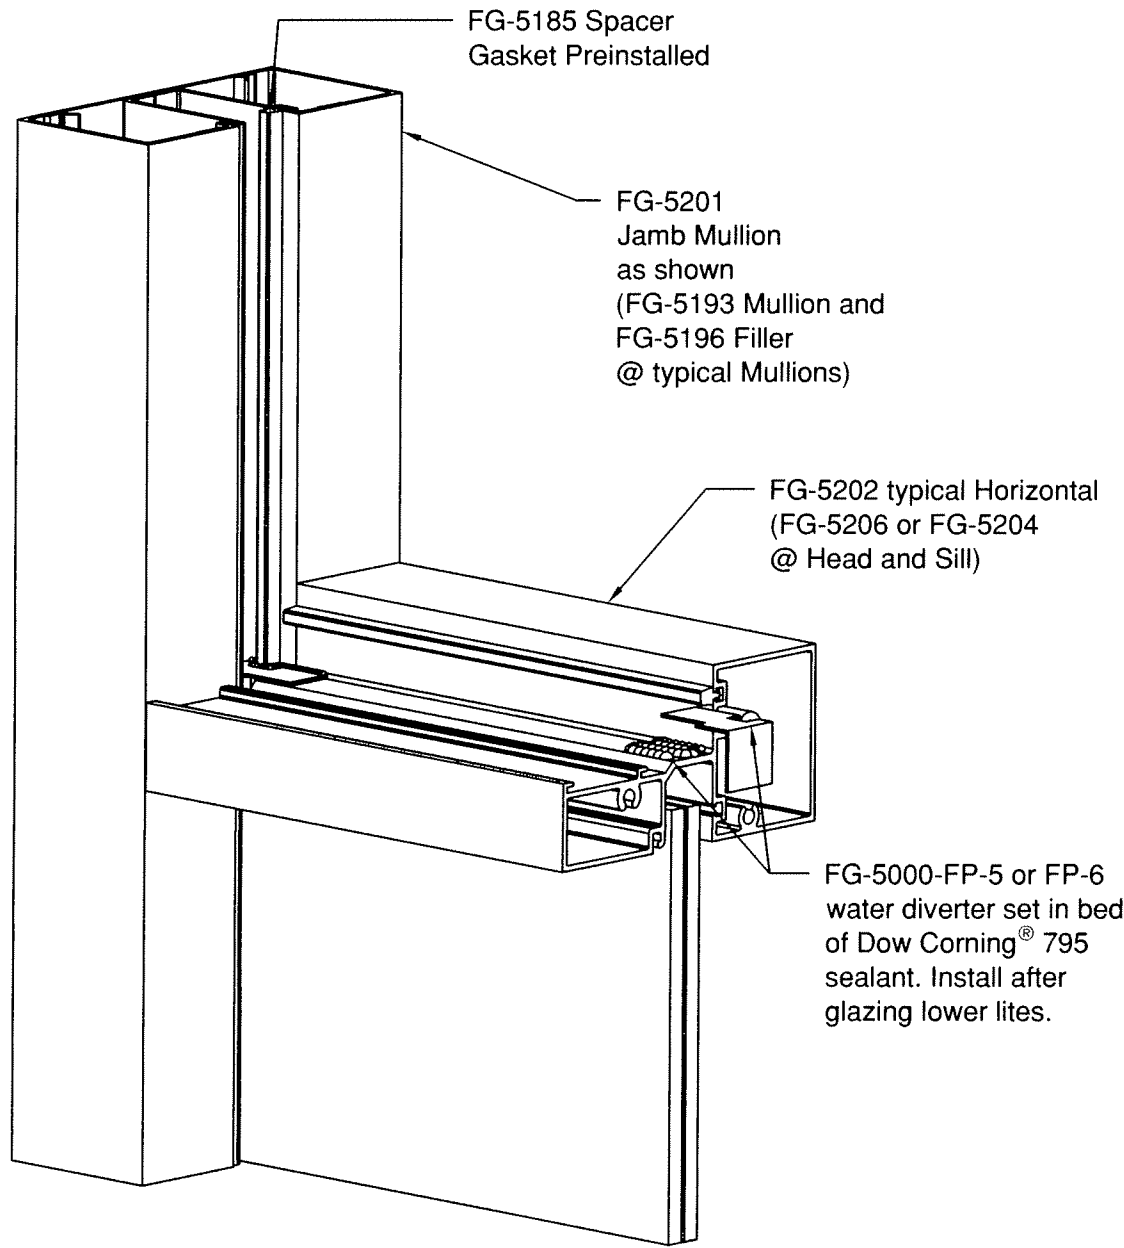
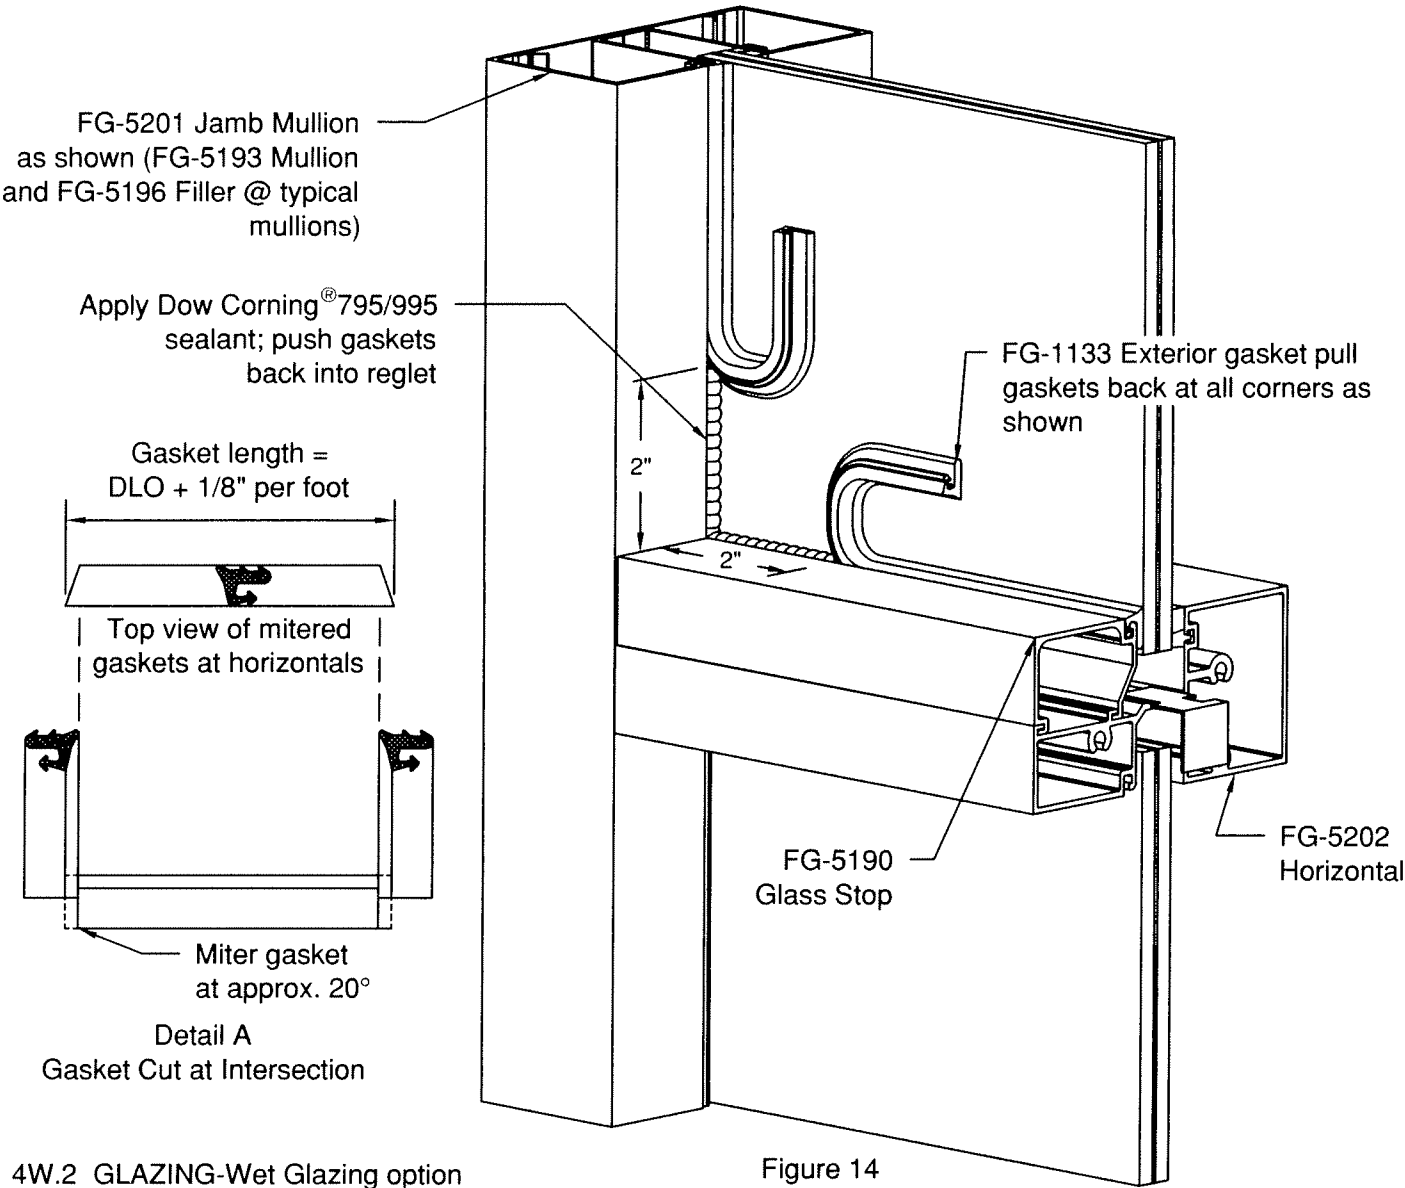
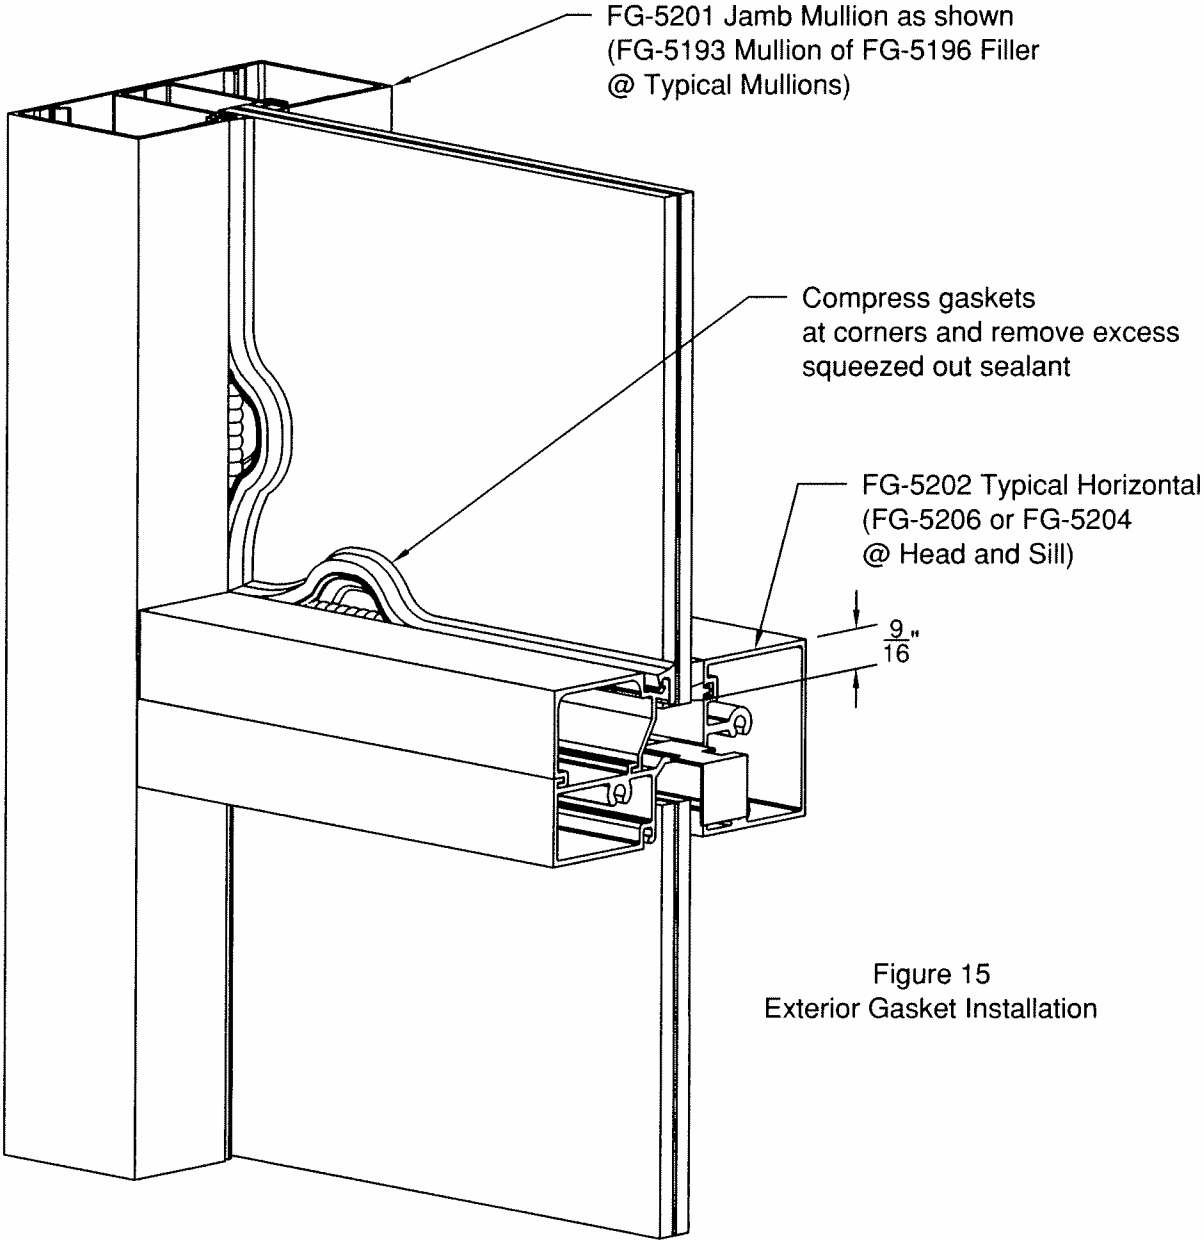

Figure 13
Figure 14
Figure 15
- 4W.1.2 Install water diverters see **Figure 13** after lower lite is in position.
- 4W.2.4 Cut gaskets a minimum of 1/8" per foot longer than daylight opening to provide for adequate compression. as shown at **Figure 14 detail A**.
- 4W.2.5 After gaskets are pressed in place. Pull gasket from pocket as shown in Figure 13 above. Clean glass and gaskets a minimum of 2" from each end with isopropyl alcohol. Apply Dow Corning® 795/995 sealant see Figure14. Push gaskets into reglet, **See figure 15 on sheet 10**.